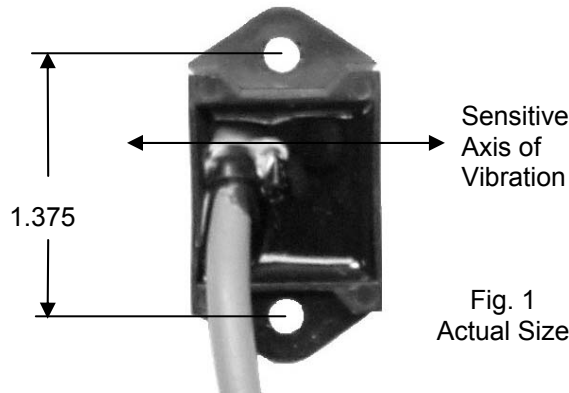
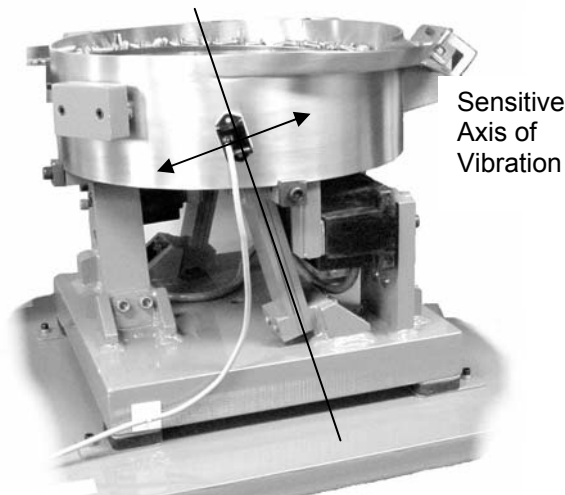

Fig. 1
Fig. 2 The arrow shows the direction of vibration which is at a right angle to the spring pack.
A. ORIENT THE SENSOR so that its sensitive axis is in the same direction as the vibration of the feeder. The double-ended arrow in figure 1 shows the sensor's sensitive axis. Align the sensitive axis of the sensor in the same direction as the vibration (see figure 2). The sensor must be oriented correctly for proper operation.
- 6) Remove the vibration sensor from its protective packaging. Remove the liner from the adhesive backing. Avoid touching the tape. Align the sensor as shown in figures 1 and 2. Apply the vibration sensor to the prepared area of the feeder. Press the sensor very firmly onto the feeder surface for at least 10 seconds.
Use a cable tie and an adhesive-backed mount to attach the sensor cable to the side of the drive base. See Figure 2. Clean the mounting area before applying the adhesive-backed mount.